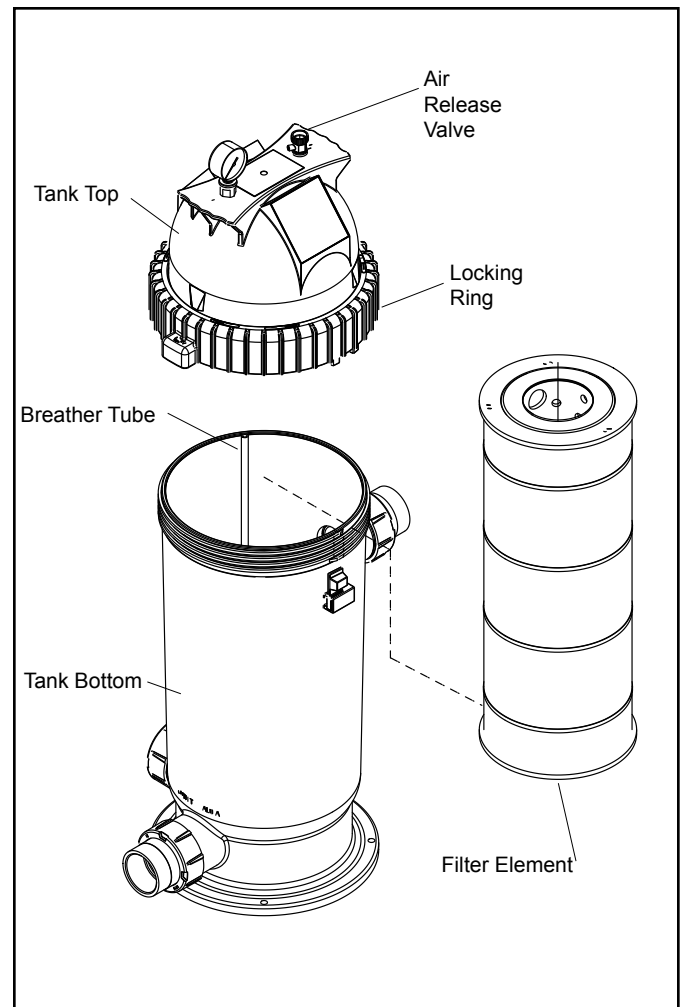

Figure 7. Filter Element Removal
2. Open air release valve on top of the filter tank to release all pressure from inside the tank and system (see Fig. 7). Close any filter isolation valves on the system to prevent flooding.
6. Check breather tube for obstructions or debris. If necessary, remove the breather tube and flush with running water until the obstruction or debris is cleared. See Figure 7.